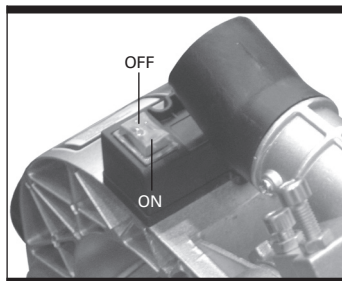

Fig 21a
1. The laser generator equipped with this machine is for the purpose of precision cutting. Make sure the batteries are fitted in the laser generator before carrying out precision cutting. To fit the batteries, open the battery storage cover, insert the 2 AAA batteries, then then close the cover. See Fig21a and 21b.